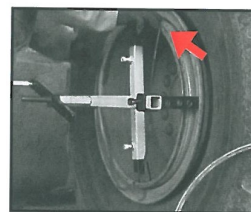
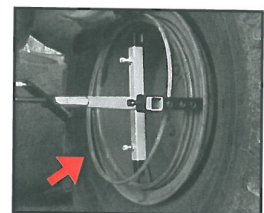

FIGURE 6a
FIGURE 6b
- After you have installed the "O" Ring (**Figure 6a**) you can also install the locking-ring (**Figure 6b**).